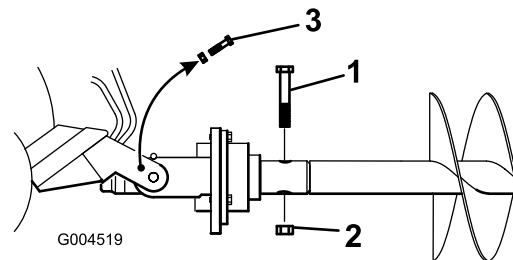

Figure 8
9. Secure the auger to the drive head with a bolt (7/8 x 4-1/2 inch) and nut (7/8 inch) (Figure 8).
10. Remove the bolts and nuts from the cradle arms that were installed in steps 1 (if applicable) and 4 (Figure 8).